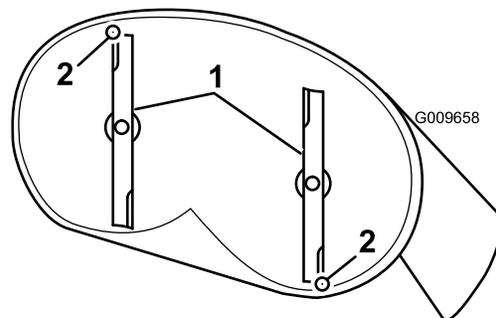

Figure 49
4. Carefully rotate the blades so they are facing front to rear (Figure 49).
5. Measure from the tip of the front blade to the flat surface and the tip of the rear blade to the flat surface (Figure 49). If the front blade tip is not 1/16-5/16 inch (1.6-7.9 mm) lower than the rear blade tip, adjust the front locknut.
8. After adjustment, check the front-to-rear slope again. Continue adjusting the nut until the front blade tip is 1/16-5/16 inch (1.6-7.9 mm) lower than the rear blade tip (Figure 49).